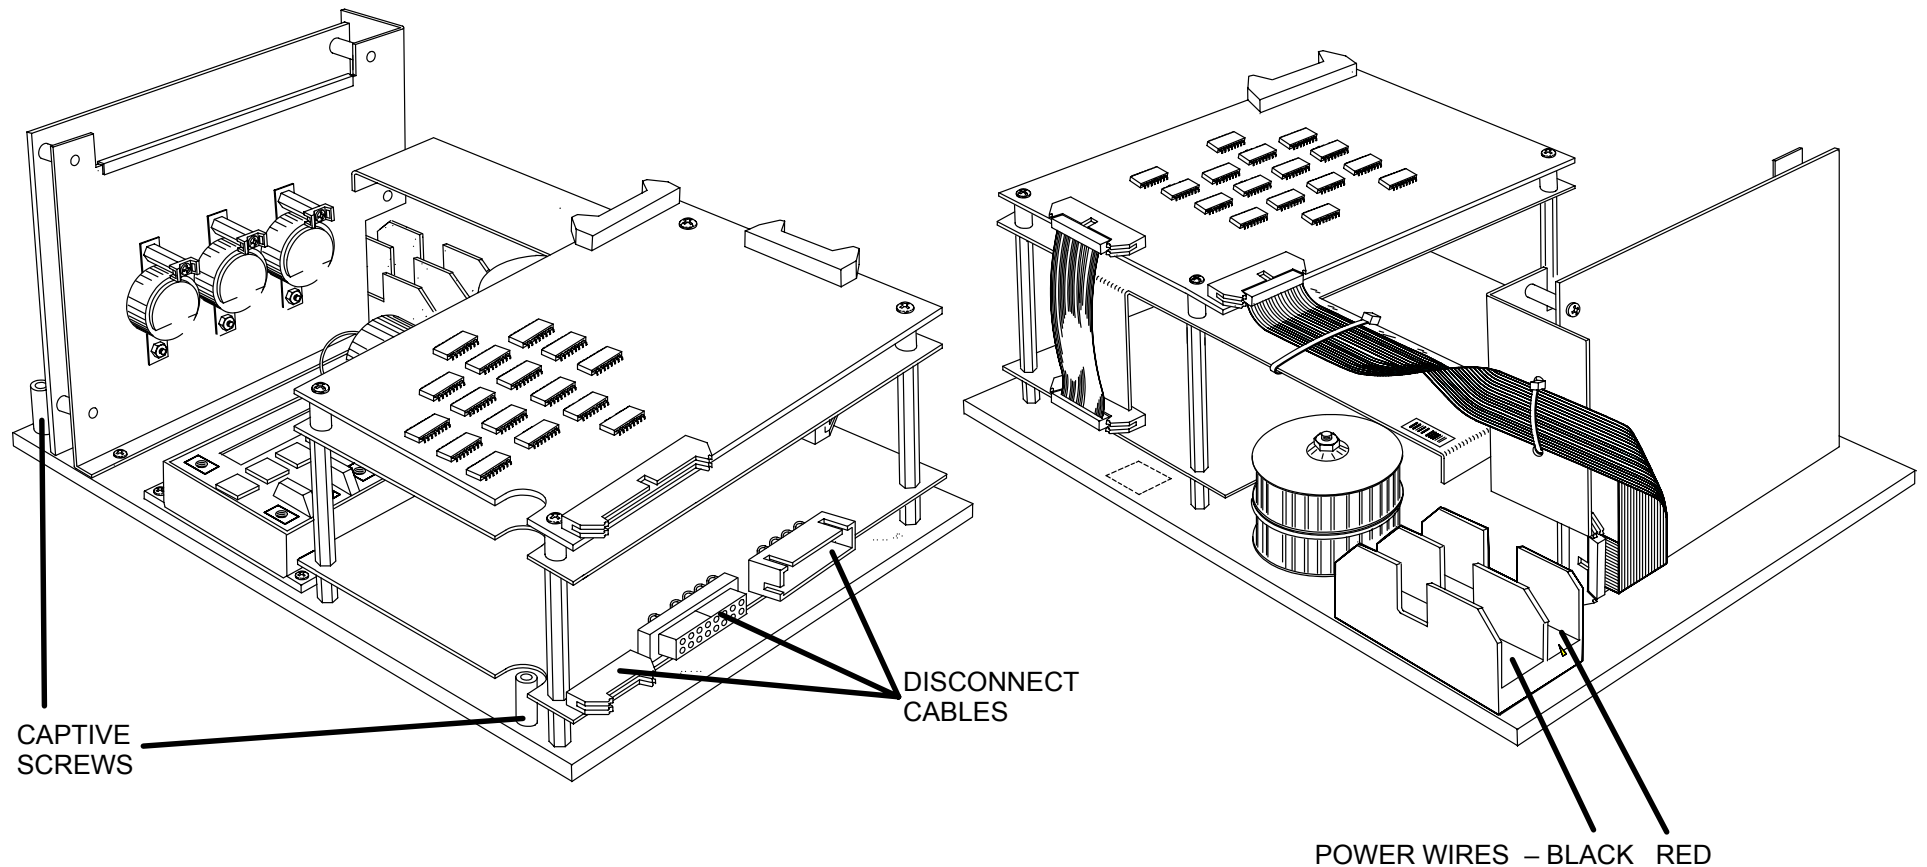

FIGURE 305 High Speed Starter – Two Different Views
4. Remove the Phillips head cover screws and remove the AC Input Chassis Cover. The High Speed Starter will be located near the top, on one side of the cabinet. Refer to Figure 305 for two views of the High Speed Starter.
6. With a long phillips head screwdriver, loosen the six captive screwsHigh Speed Starter. See Figure 305.